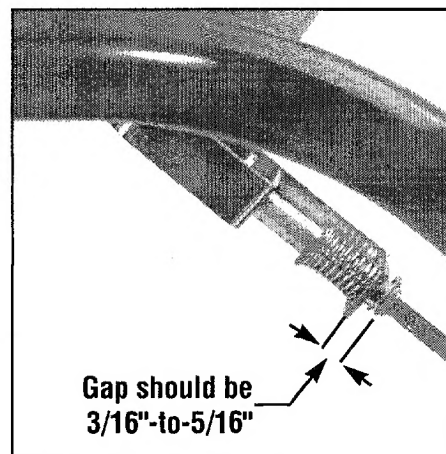

Figure 2-9: While squeezing Forward Clutch paddle, measure gap between end of bracket and E-ring.
- While squeezing the paddle, measure the gap between the E-ring and the lower end of the clutch rod bracket (see Figure 2-9). The gap should be 3/16"-to-5/16". **NOTE:** A stack of five pennies is approximately 5/16" thick.